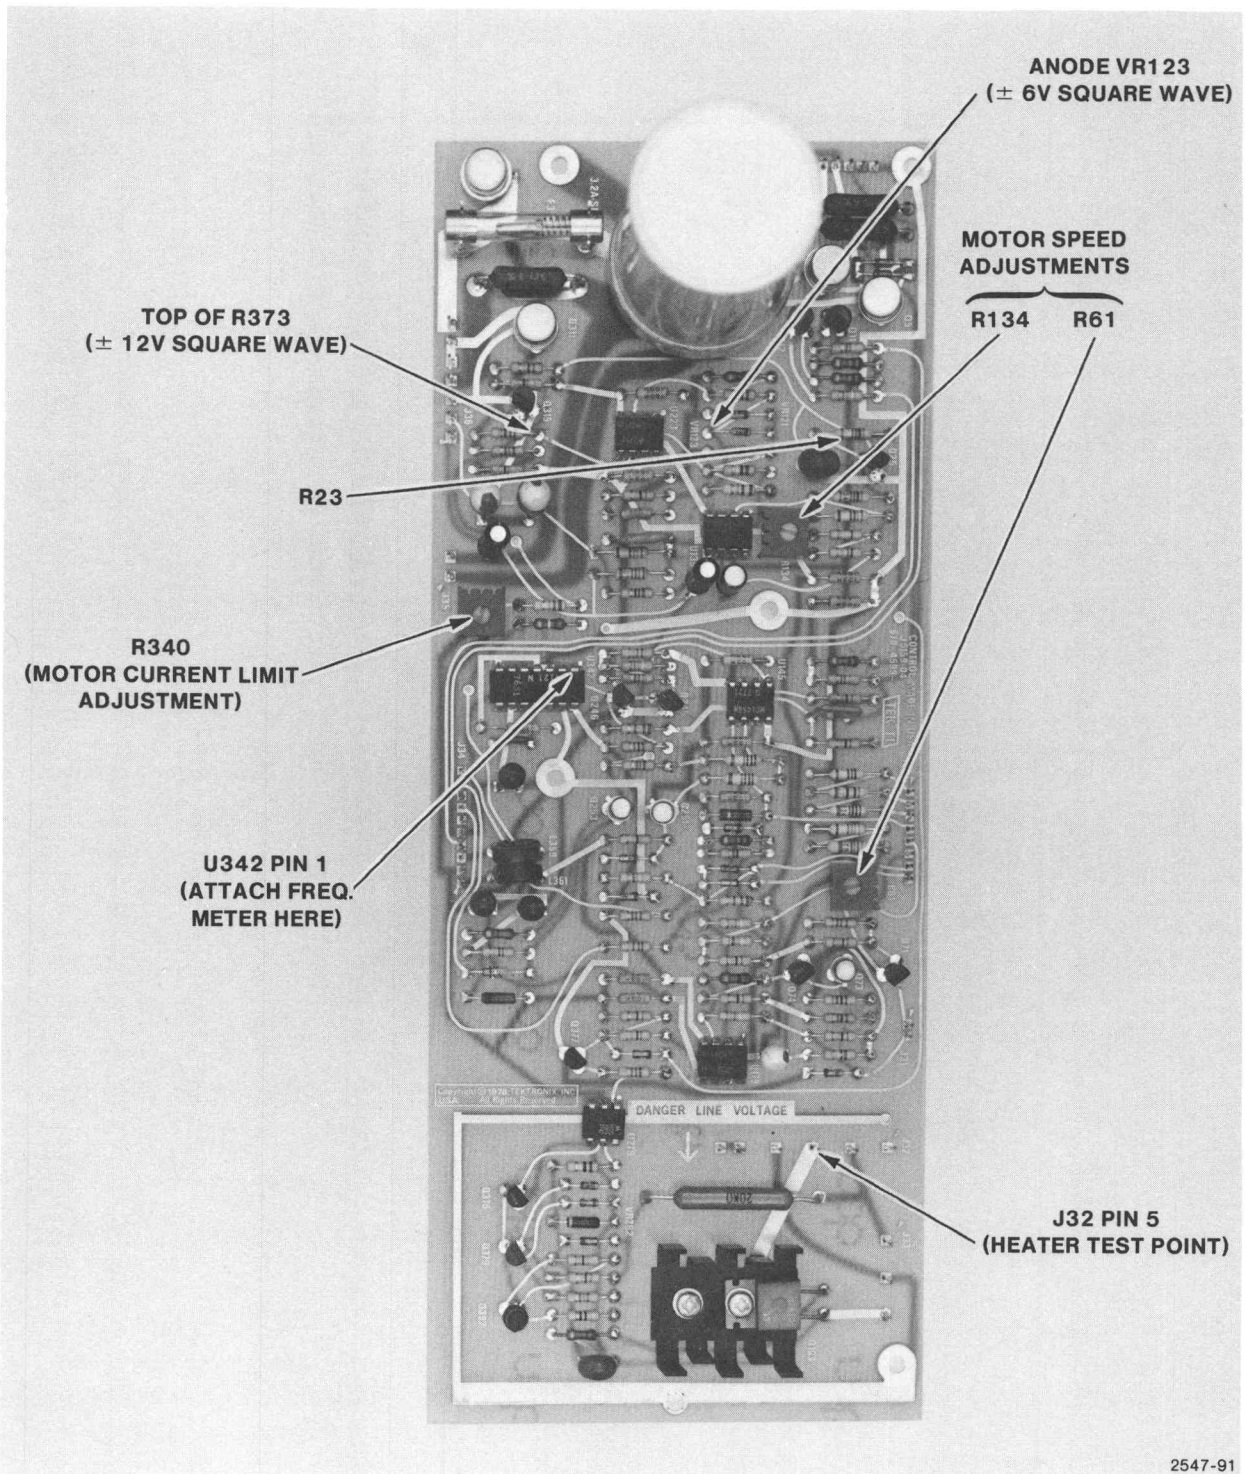

Figure 4-18. Control Board Test Points and Adjustments.
- 2) Connect a frequency counter to pin 1 of U342 (Figure 4-18).
- 5) ADJUST—R134 (Figure 4-18), with PAPER SPEED set to 10 mm/sec, for a frequency reading of 32 Hz \pm 2 Hz.
- 1) Remove the fish paper obscuring the rear of the control board. Connect oscilloscope probe to pin 5 of J32 (Figure 4-18).
- 1) CHECK—the anode of VR123 (Figure 4-18), with the oscilloscope for a ± 6 volt squarewave.
- 2) ADJUST—R340 (Figure 4-18) fully clockwise.